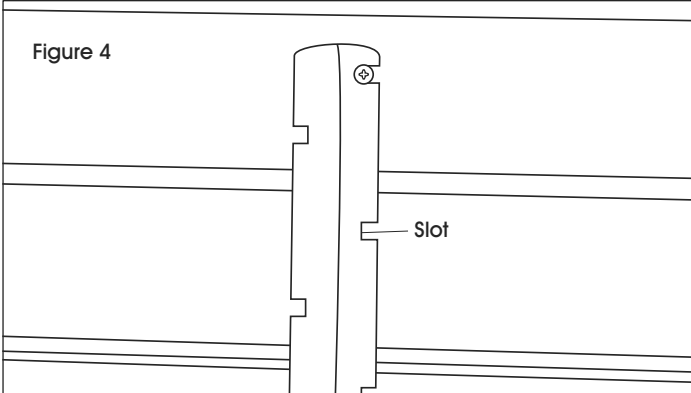

Figure 4
7. Using a drill with Phillips head bit, attach 1/4" screws through the slots of the brace into the planks. (See Figure 4)